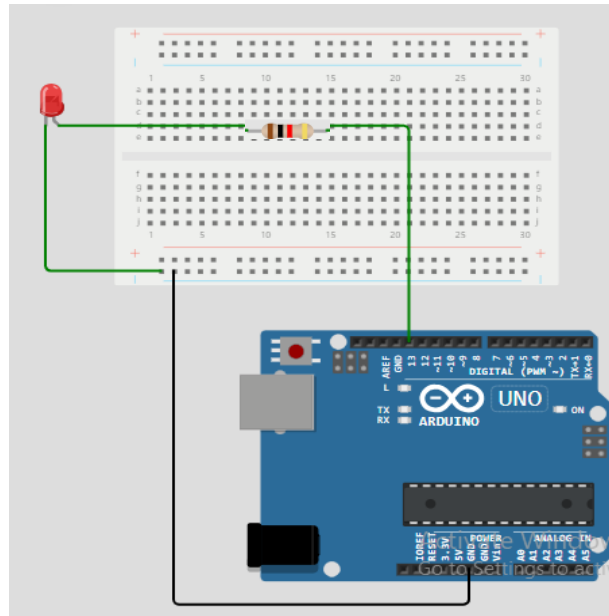

Figure 6.7
a) Design the circuit diagram given in figure 6.7 in Wokwi using the components listed below.